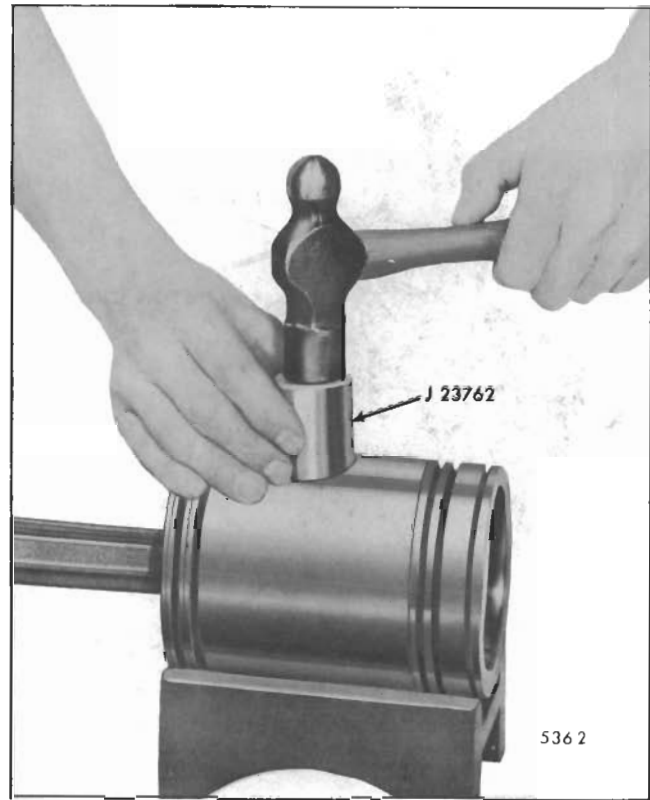

Fig. 9 - Installing Piston Pin Retainer
8. Place a new piston pin retainer in position. Place the crowned end of installer J 23762 against the retainer and strike the tool just hard enough to deflect the retainer and seat it evenly in the piston (Fig. 9).